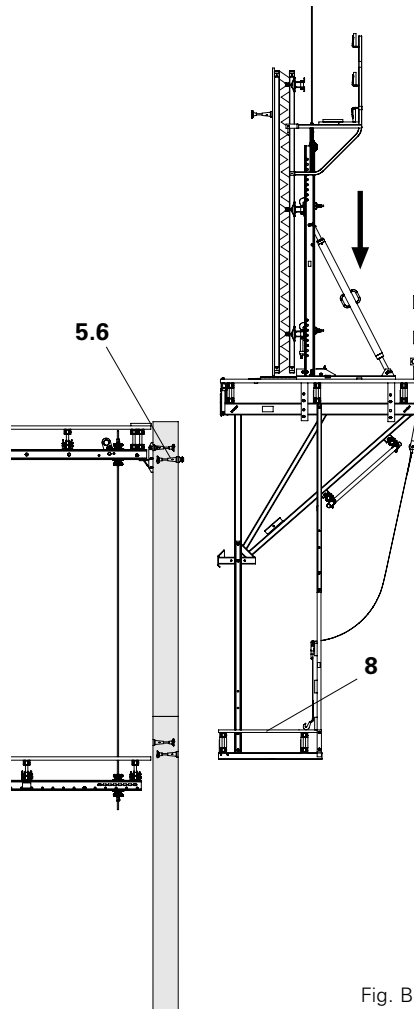

Fig. B1.30
10. Close the planking on the finishing platform (8). (Fig. B1.30)